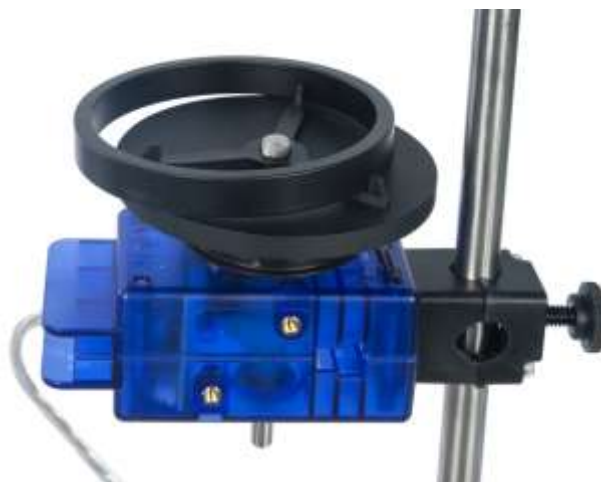

Figure 2: Offset Mass for Leveling
5. To level the base: Place the ring (or other available mass) on top of the disk so it is off center. See Figure 2. This makes the disk unbalanced.